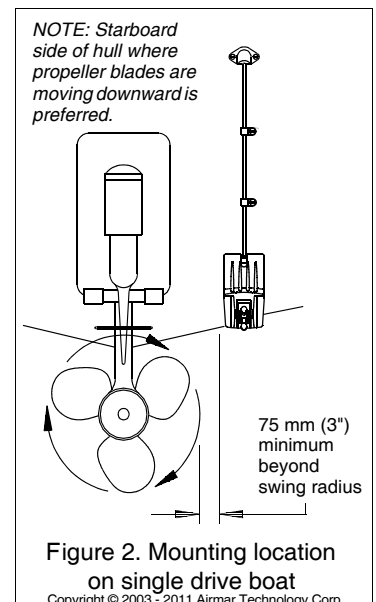

Figure 2. Mounting location on single drive boat
- **Single drive boat**—Mount at least 75 mm (3") beyond the swing radius of the propeller (see Figure 2).